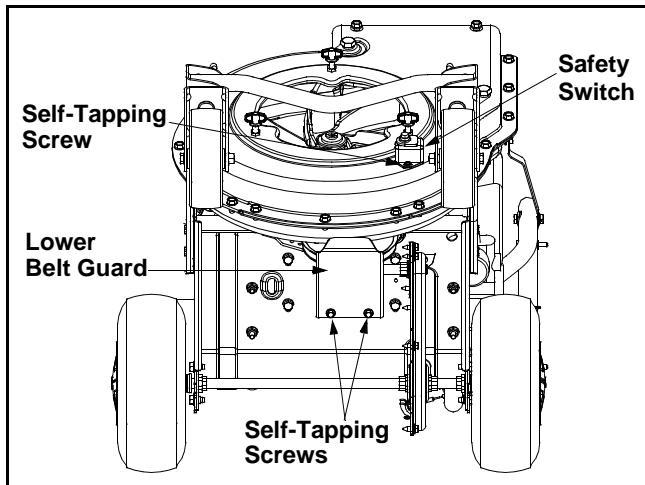

Figure 12
- Remove the lower belt guard by removing the two self-tapping screws. See Figure 12.
- Remove the safety switch from the front of the outer housing by removing the two self-tapping screws. See Figure 12.